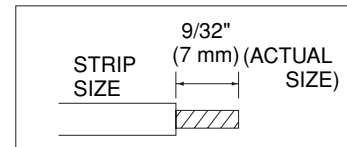

Fig. 26
- (1) Cut the wire end with a cutting pliers, then strip the insulation to expose the wire about 9/32" (7 mm). See the label (Fig. 26) near the terminal plate.
- (2) Using a screwdriver, loosen the terminal screw on the terminal plate.
- (3) Insert the wire and tighten the terminal screw completely using a screwdriver.